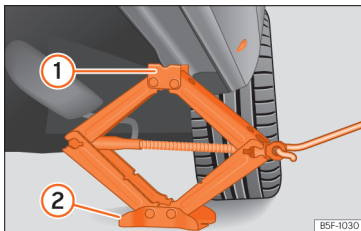

Fig. 226 Crossbar: mounting the jack on the vehicle.
- Turn the jack crank handle, located below the strut support point, to raise it until the tab **1** >>> **Fig. 226** is below the housing that is provided.